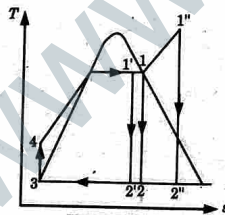

Fig. 1.25.2.
3. Fig. 1.25.2 shows T-s diagram of Rankine cycle.